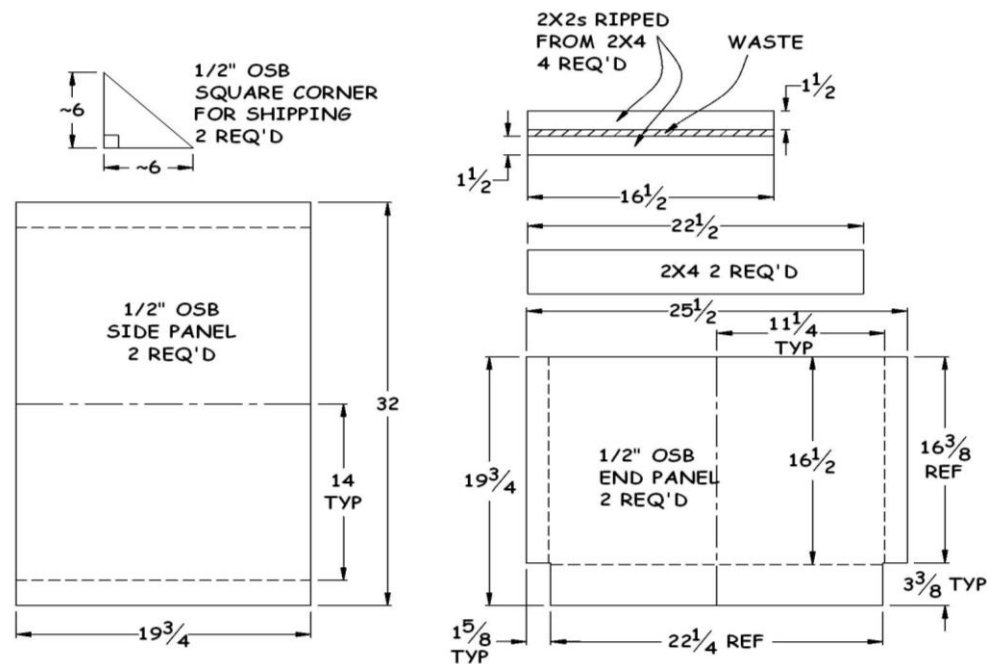
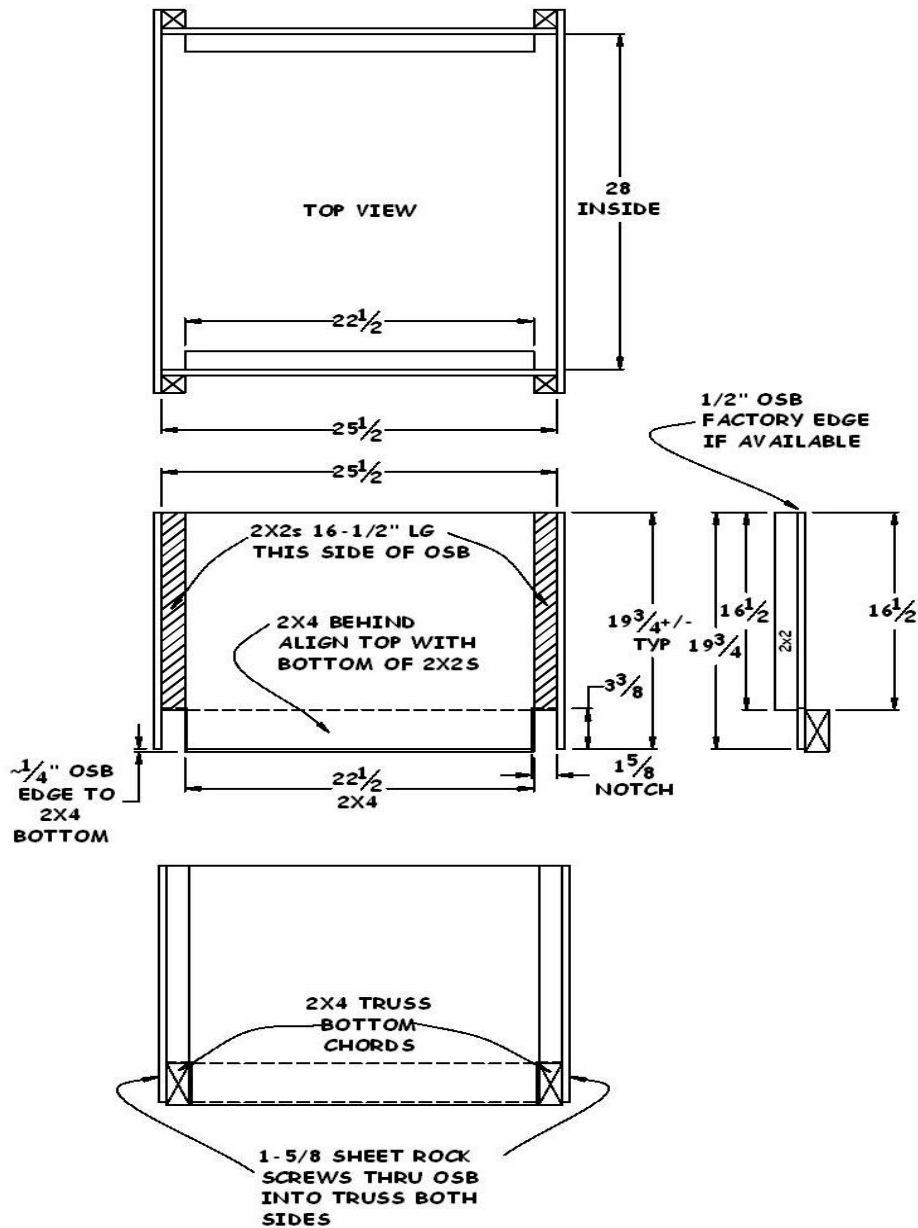

Figure 7-4. Scuttle Box Cut Diagram.
Figure 7-5. Scuttle Box Assembly.
1. Typically, the scuttle box is pre-built and delivered to the site prior to the day it is to be installed. However, if it has not been built, use the following instructions to build one. See Figure 7-3 for a picture of the finished scuttle box and Figure 7-4 and Figure 7-5 for schematic drawings.